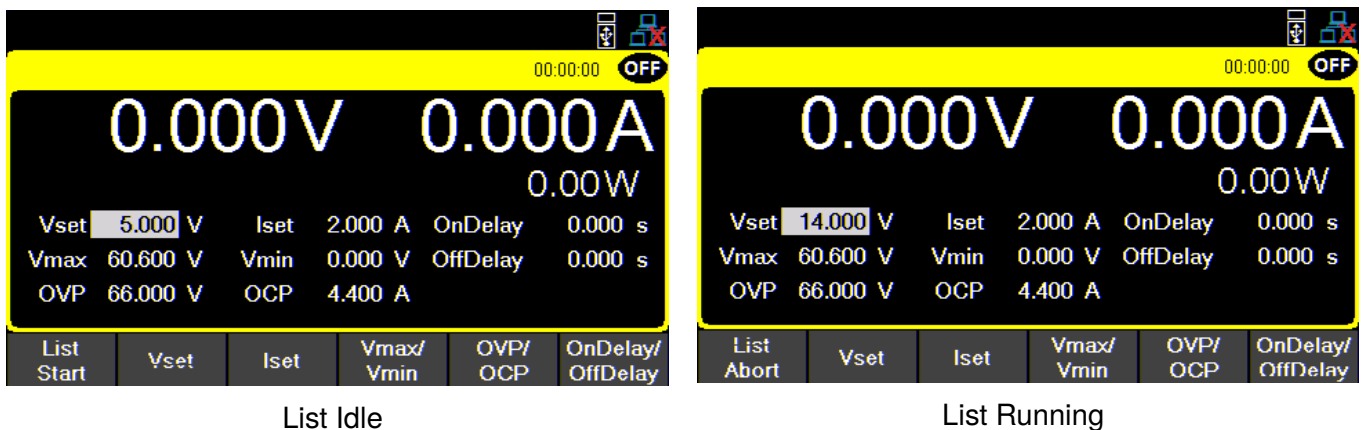

Figure 5.7 Operation State Enabled
- **List Start** will be inserted as the **F1** softkey option. All other option in the home page will move one softkey to the right. See figure 5.7 List Idle.
- Once the list begins **List Start** will change to **Abort List** see figure 5.7 List Running